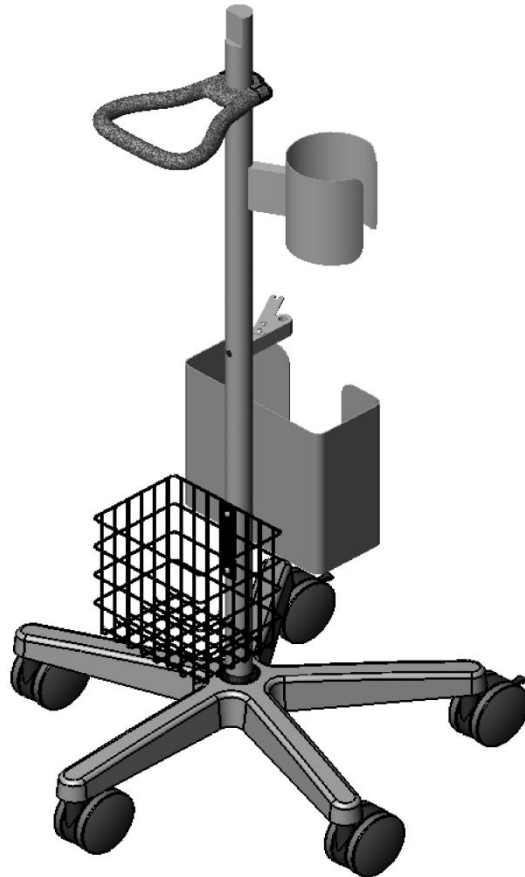

Figure 4 RG Cart
- The mobile RG Cart is provided as part of the RG system and includes a pole for mounting of the RG Console (Figure 4). The cart has 5 wheels, 2 of them locking to restrict movement, if necessary. The 2 locking wheel should be position to the front of the cart. The cart includes containment housings for the infusion and urine collection bags which are designed to limit the movement of the bags during transport. The 12 inch basket can be used to store extra RG sets, IV fluid etc. The RG Cart passes the tip test outlined in IEC 60601-1.